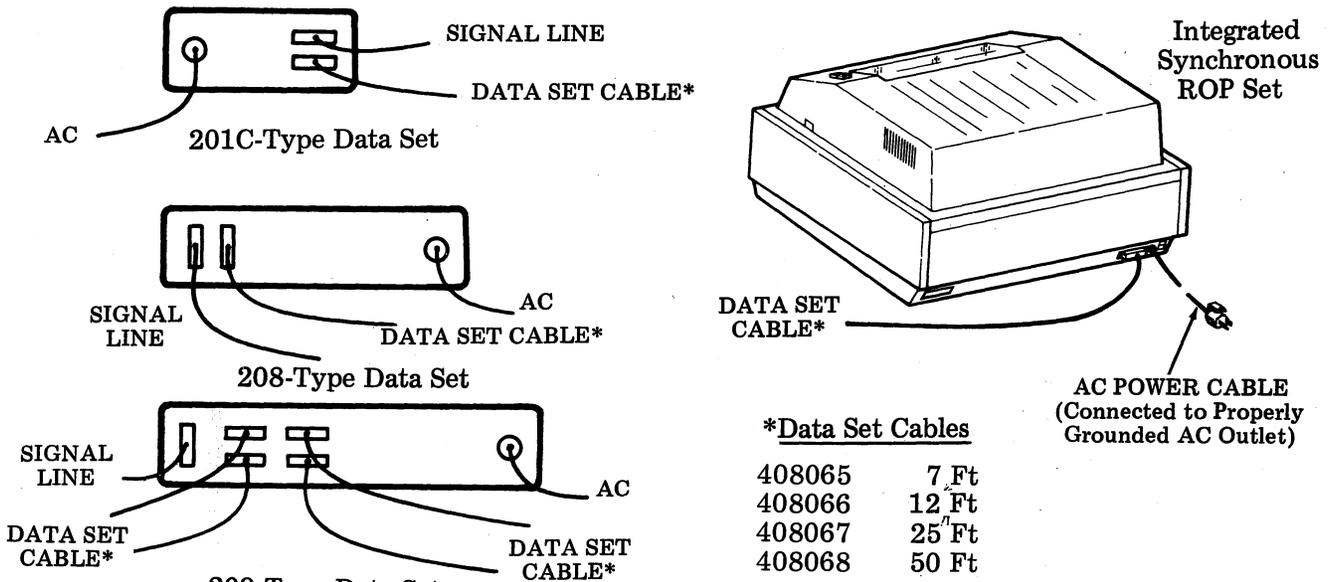

Fig. 34—Data Set Connection
7.06 Data Set Connection: After the data set has been optioned, connect to the Integrated Synchronous ROP Set (Fig. 34).